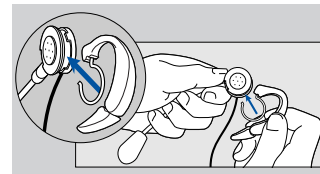

Figure 3-5. Installing Ear Capsule.
4. Push the C-ring onto the receiver housing until it springs into place in the groove (see Figure 3-5).